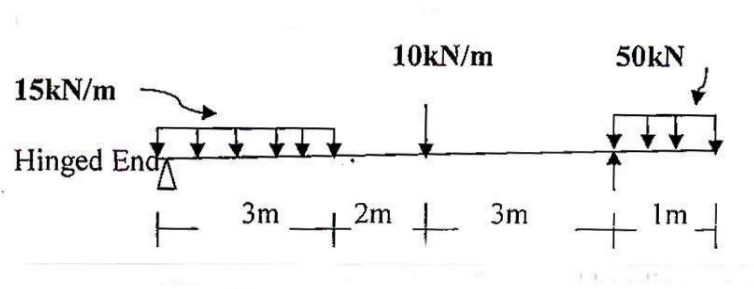

Fig. 5
3. (a) Draw shear force diagram and Bending Moment diagram for the beam as shown in Fig. 5. Indicate the numerical values at all important section. Find the position of contraflexure are, if any. [10]